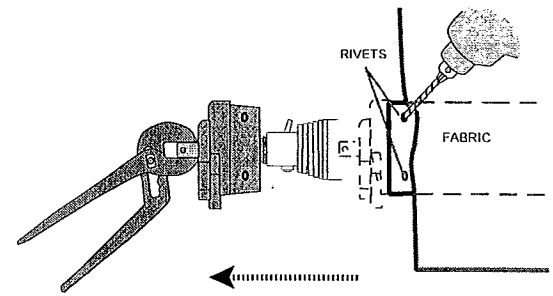

Figure A4
5. Remove Z-Spring Assembly (Fig. A4)